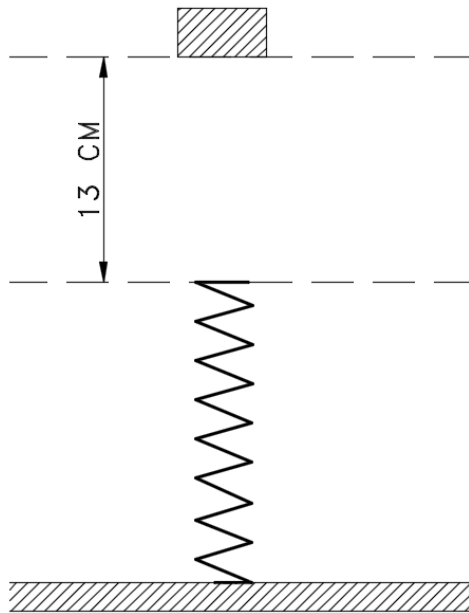

Fig 4
7. A 10 kg weight is dropped on a spring from 13 cm height, as shown in Fig 4. Determine the maximum deflection of the spring if the stiffness of the spring becomes 0.57 N/mm. (14 Marks)